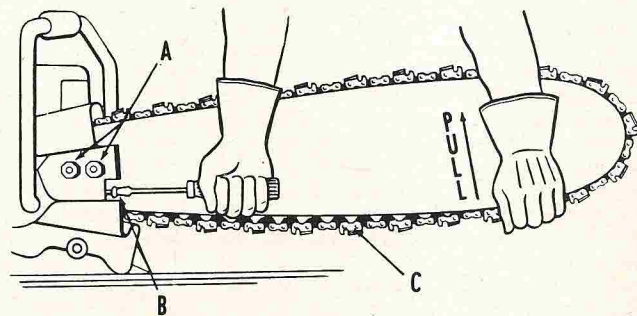

Fig. 4—Adjusting chain tension. Have bolts at A finger tight; adjust tension, B, while holding up outer end of bar. All slack must be out of the chain.
**CHAIN ADJUSTMENT.** If manufacturer's instructions are not available, make chain adjustments (See Fig. 4) according to following procedure. Check and adjust tension when the bar and chain are cold. Loosen the stud nuts (A) slightly. Hold the tip end of the bar up. Run the chain tightener screw (B) up tight, then back off the tightener screw 1/8-turn. Tighten the stud nuts. Operate chain oiler plunger three or four times. Pull chain around the bar by hand; if the chain moves freely and all drive links are up in the bar, adjustment is correct.